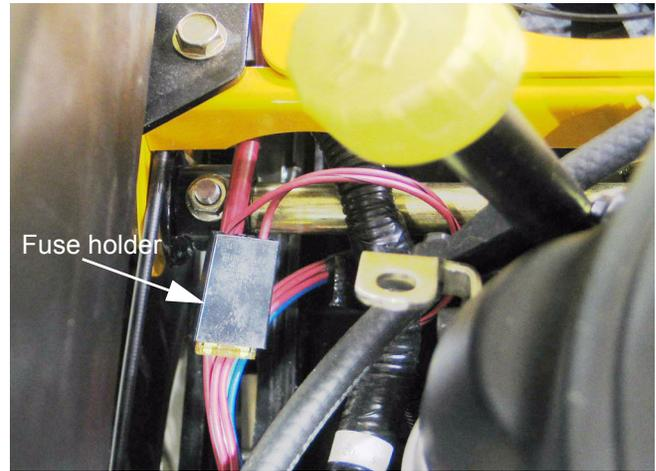

Figure 28.21
28.21. **Fuse:** The fuse holder can be found on the main harness conduit, near the left front corner of the engine. It should contain a 20A automotive type fuse. See Figure 28.21.